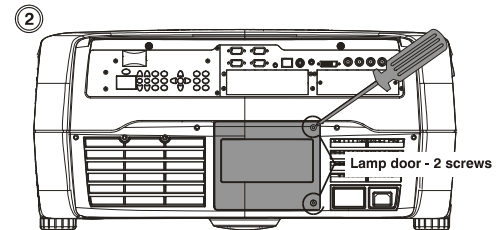

Figure 4.2. Open Lamp Door
Using a #2 Phillips screwdriver, remove the two (2) screws securing the lamp door, which is located at the rear of the projector below the input panel. See Figure 4.2.